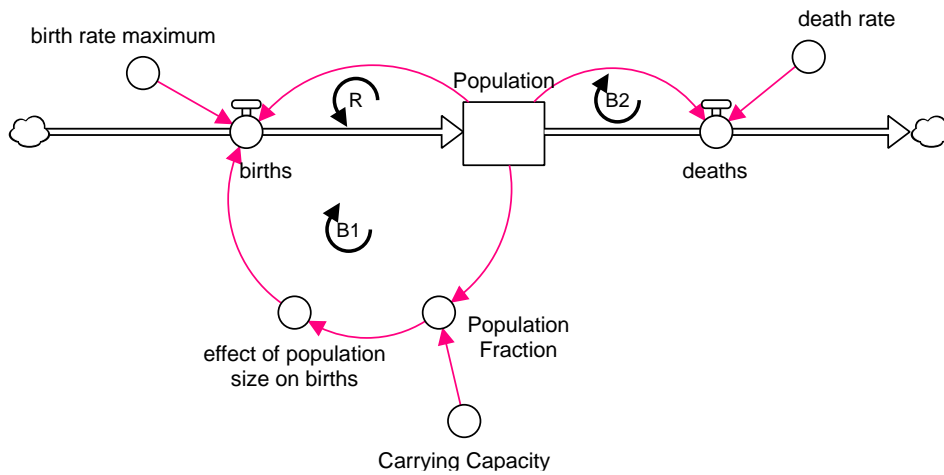
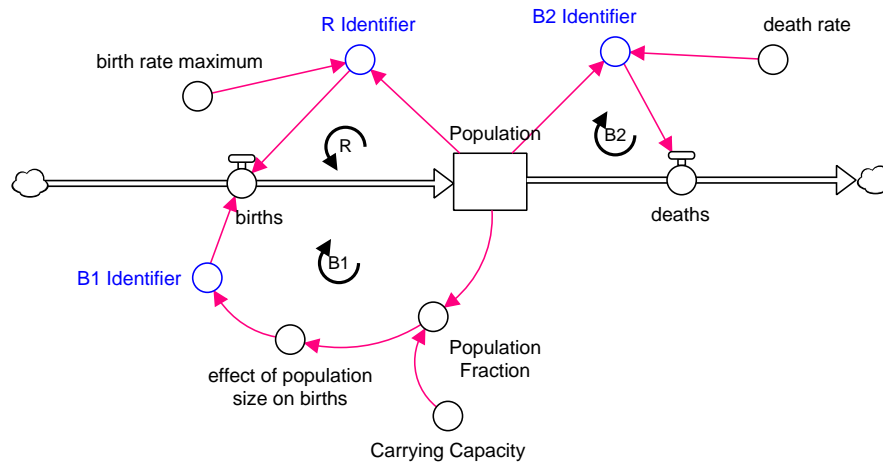

Figure 15: Limits-to-growth model of population
Figure 17: Limits-to-growth model with loop identifiers.
The model we will use is a limits-to-growth one where a population grows in a restricted environment, and is also subject deaths, Figure 15. There are three loops, all first-order: one reinforcing loop on the inflow, and two balancing loops, one on the inflow and one on the outflow.
or construct the model in a Stella model window from Figure 15 using the equations:
- Modify the model in Figure 15 with the three loop identifiers: *R Identifier*, *B1 Identifier* and *B2 Identifier*, Figure 17, moving the connections of the two parameters *birth rate maximum* and *death rate*: